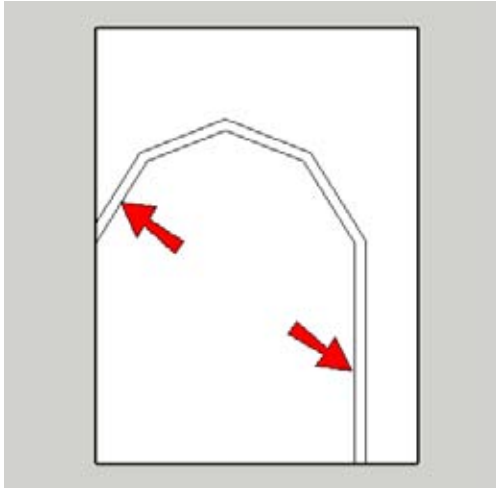

Figure 7-47
- The innermost face you have now, indicated by the arrows in Figure 7-47, is the boundary you want for the cutting face, because this is where the cutting face meets the exterior edges of the brown frame. Erase everything *except* for the edges of this face.